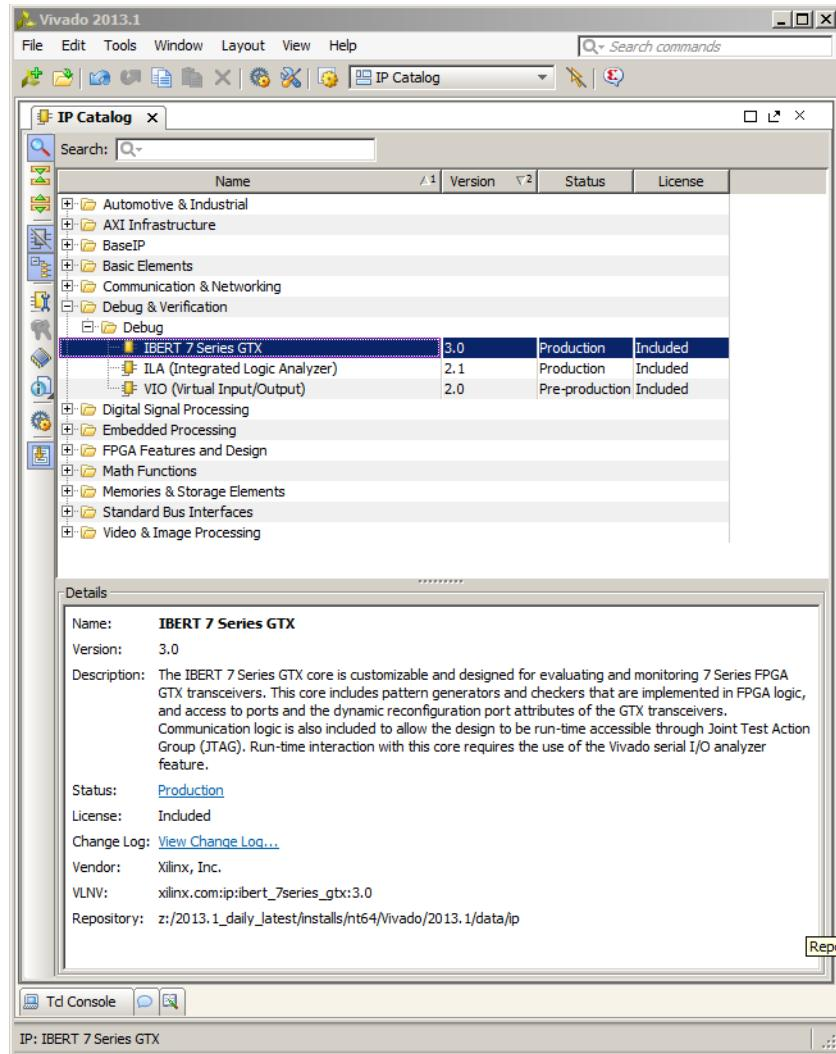

Figure 11-1: IP Catalog Showing the IBERT 7 Series GTX Core
4. In the **IP Catalog** under **Debug and Verification > Debug**, you will find one or more available IBERT cores as shown in Figure 11-1, depending on the device selected in the previous step.